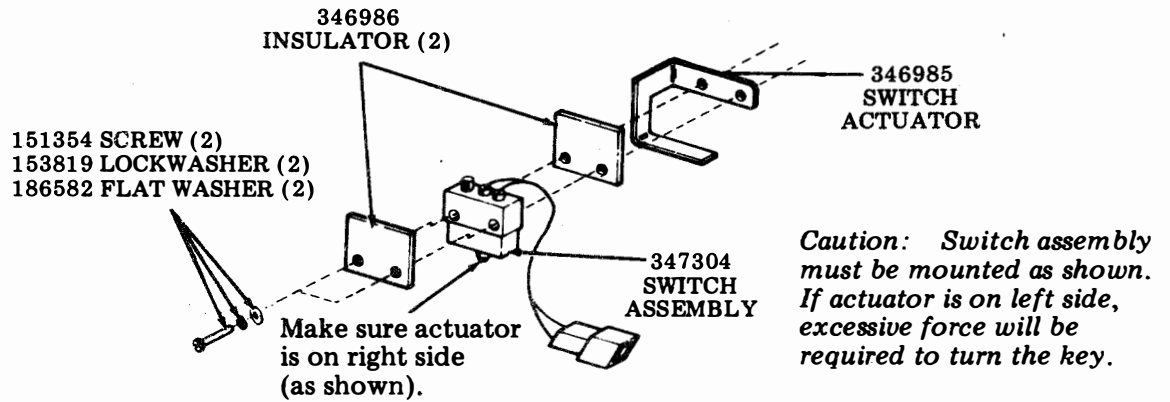
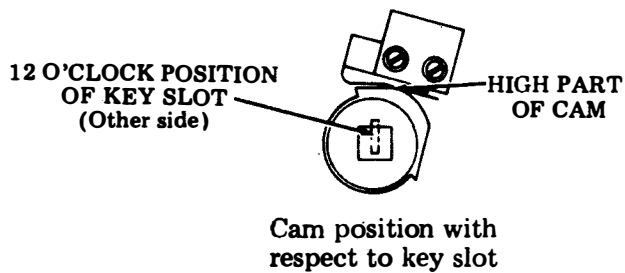

Fig. 6
Fig. 9
3.07 Assembly of 347304 switch assembly. See Fig. 6 through Fig. 9.
- ④ The lock should be assembled in the sleeve so that in the "off" position the key is inserted with the notched, or bitted side up. See Fig. 9.
- ⑤ Tighten switch assembly mounting screws.